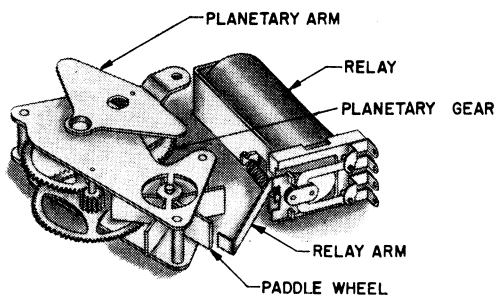

Fig. 4
## Section 2—Motor and Control (See Fig. 4)
- A. Spring driven gear train begins to sweep. (Fig. 4)
- A. Gear train stops. (Fig. 4)